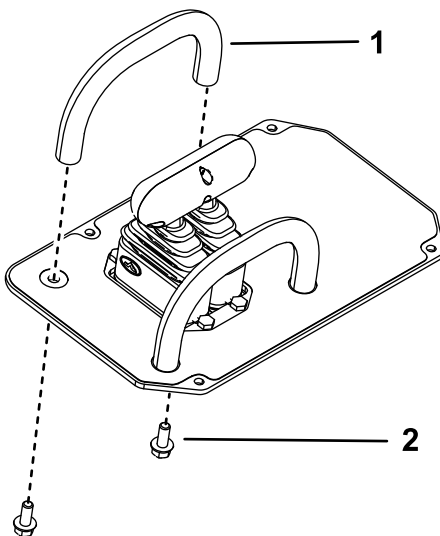

Figure 22
1. Bolt and nut (4)
3. Lift up the control panel cover and remove the front handle (Figure 22).